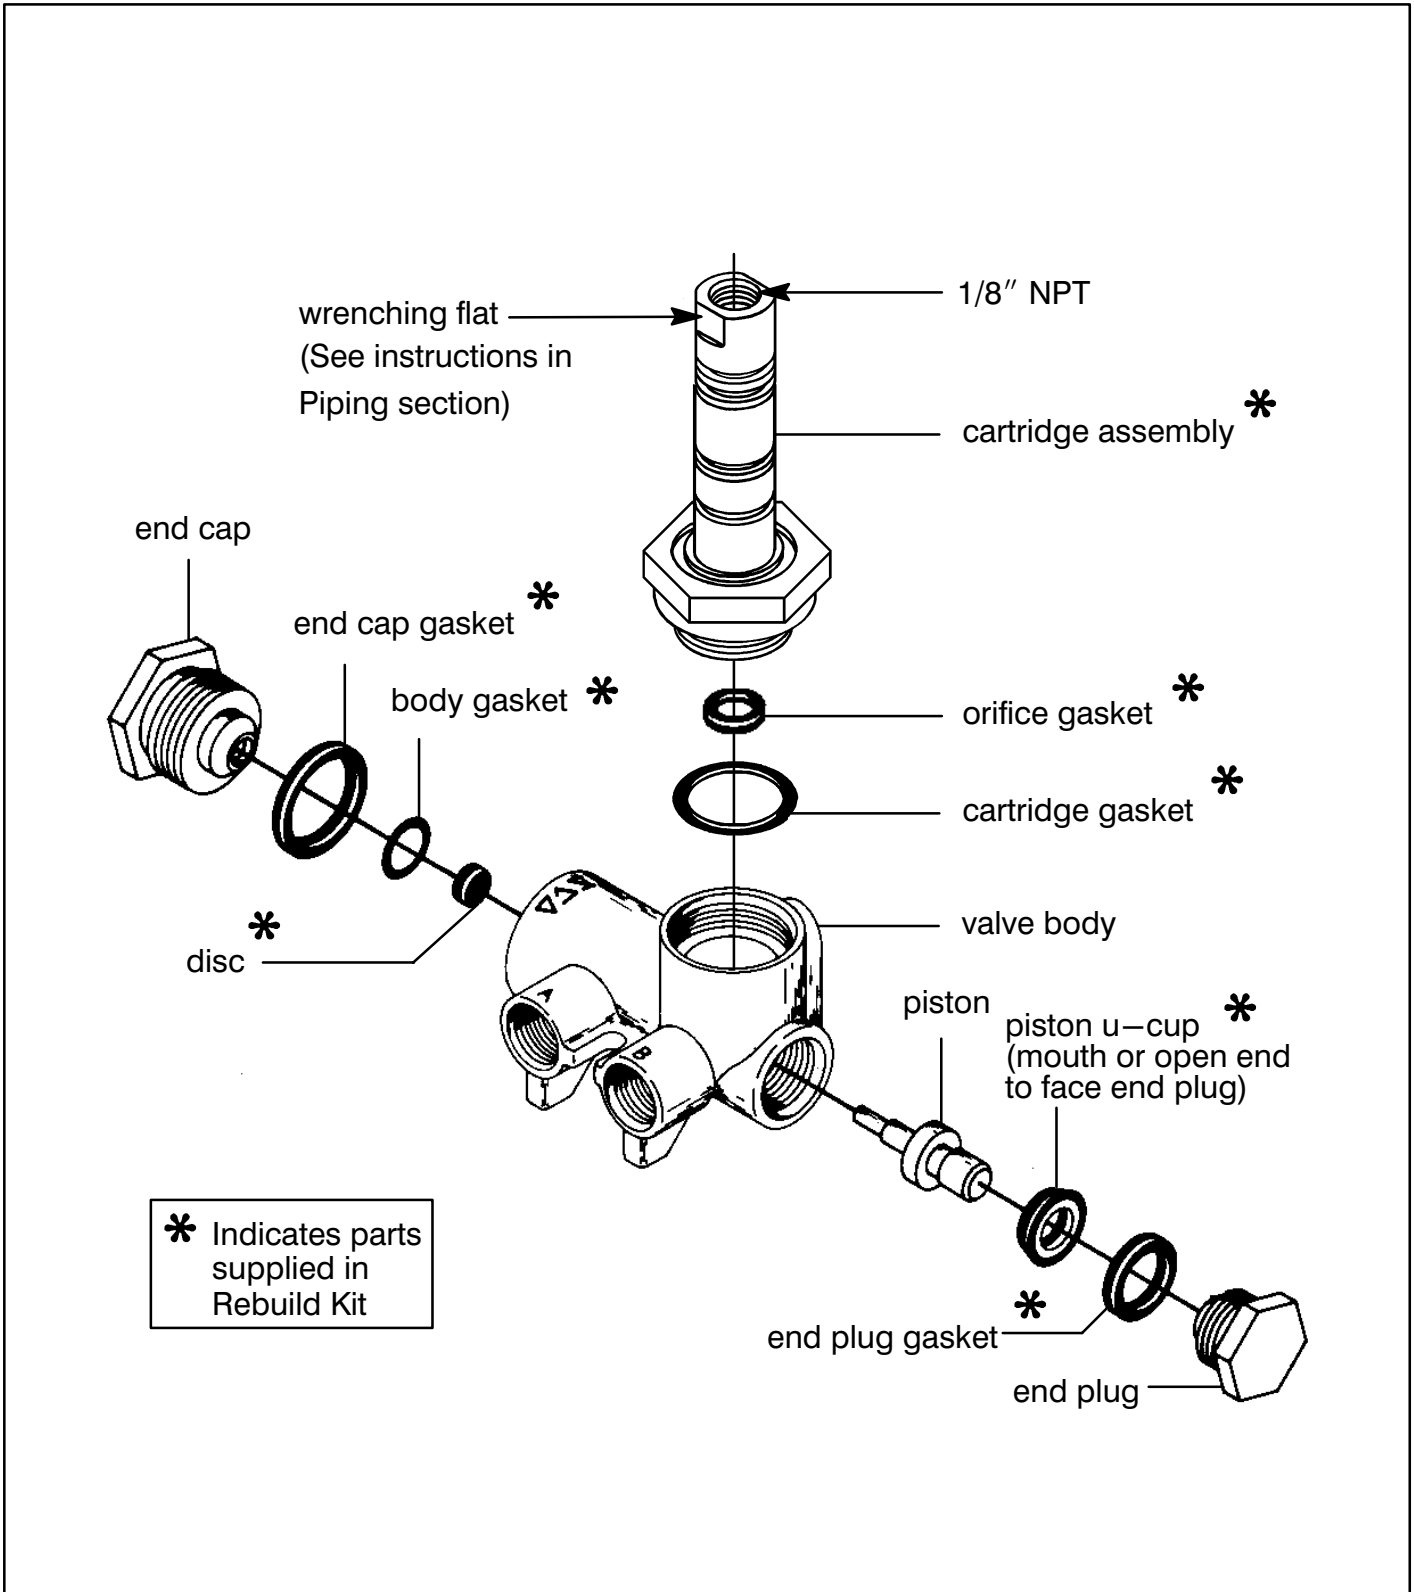

Figure 3. Series 8345 without solenoid.
1. Disassemble valve in an orderly fashion using exploded view for identification and placement of parts. Refer to Figure 3 on page 4 of 4.